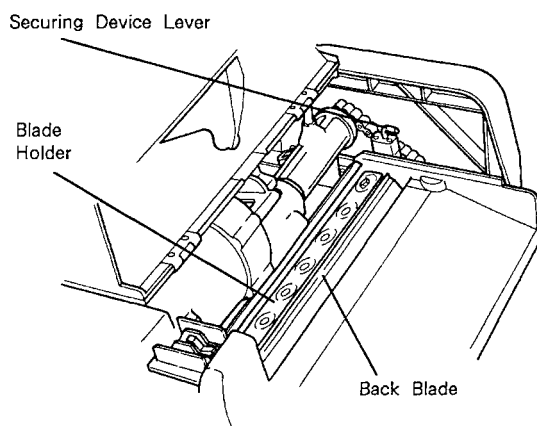
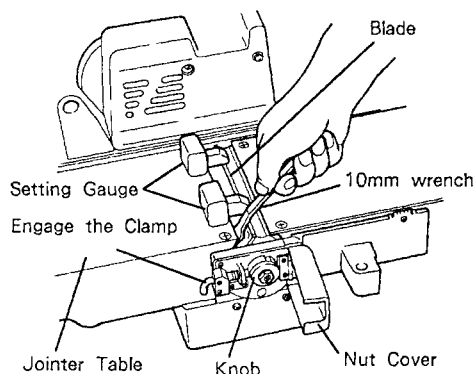

Fig. 16
Fig. 20
- (1) Turn the Knob on the side of the Jointer Table (Fig. 20) to bring the tip of the Back Blade on the Planer Cutter Head to the upper position, and engage the Planer Cutter Head Securing Device by pushing it inward and turning it clockwise to secure the Cutter Head in position (Fig. 16).
- (2) While carefully holding both sides of the Blade, insert it between the Blade Holder and the Back Blade ensuring that the notched grooves on the Blade are aligned with the Springs in the Blade Holder.
- (1) Open the Nut Cover on the side of the Jointer Table, turn the Knob to bring the back Blade on the Jointer Cutter Head to the upper position, and engage the Jointer Cutter Head Clamp (Fig. 20).
- (2) While carefully holding both sides of the Blade, insert it between the Blade Holder and the back Blade ensuring that the notched grooves on the Blade are aligned with the Springs in the Blade Holder.
(3) After inserting the Blade, press the provided Setting Gauges to the surface of the Jointer Table as shown in Fig. 20.
Then, ensuring that the Blade evenly contacts the Setting Gauges, use the provided wrench to temporarily tighten the two outer bolts (Fig. 20).
In addition, close the Nut Cover (Fig. 20).